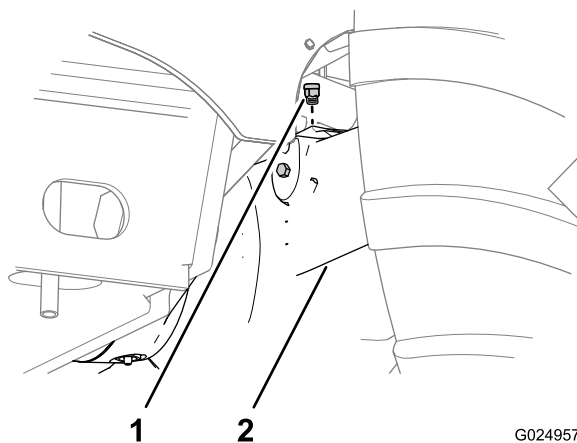
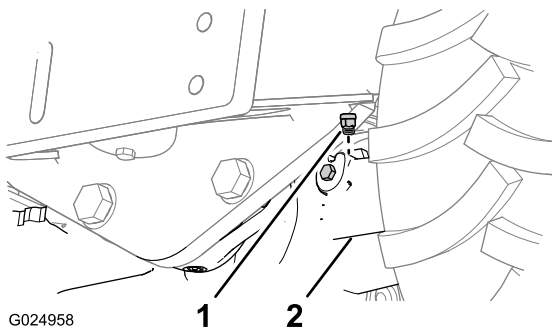

Figure 92
Figure 93
1. Clean the area around the breathers with a cleaning solvent (Figure 92 and Figure 93).
2. Remove the breathers from the front axle and rear axles (Figure 92 and Figure 93).
5. Install the breathers into the front and rear axles (Figure 92 and Figure 93).